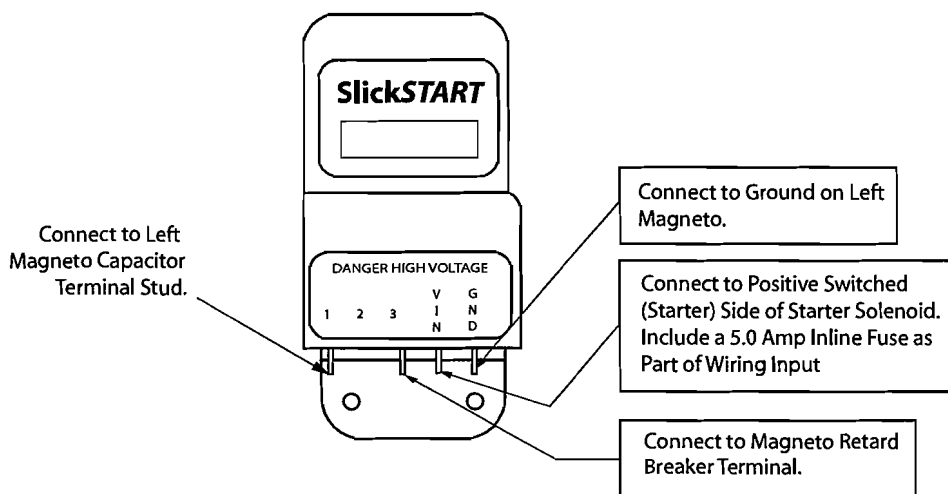

Figure 2
- A. To replace **starting vibrators, which do not include a relay**, or when converting from impulse coupled to retard breaker magnetos, when the engine will be started using only the left magneto on single engine applications only (refer to Figure 2):